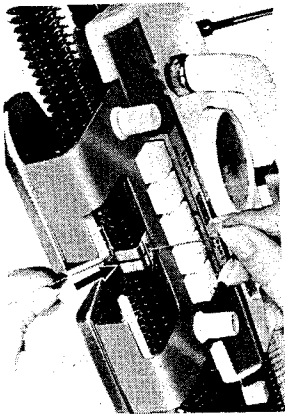

Fig. 30
A. Thread yarn into hole of the yarn feeder by holding yarn taut with both hands, pull back into slit until you hear a click of the yarn holder spring. When removing the yarn, pull yarn up and over the yarn holder spring. (See Fig. 30)